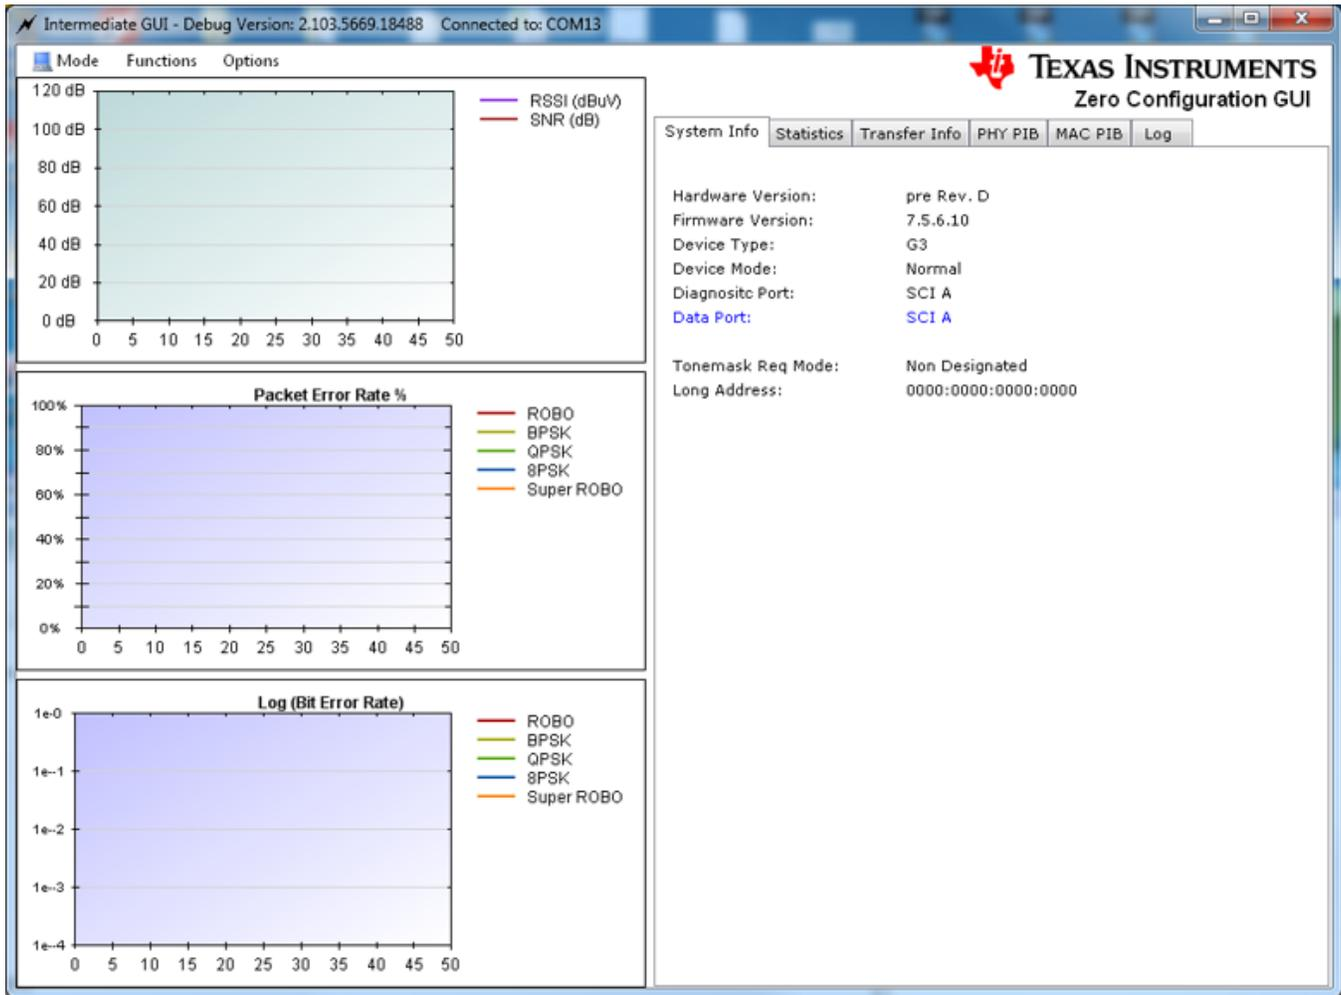

Figure 5. Intermediate GUI
- (b) Open Intermediate GUI on the PC (see Figure 5).